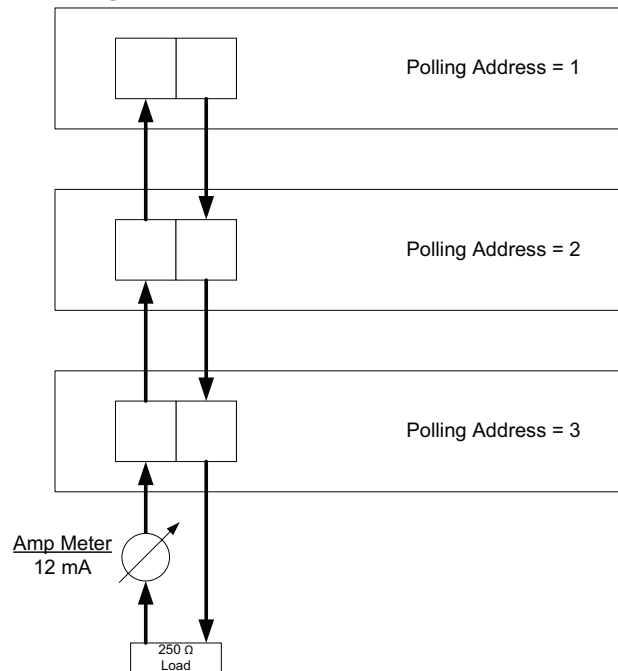

Figure 3: Wiring meters in parallel
2. Wire the meters in parallel as shown in *Figure 3*: